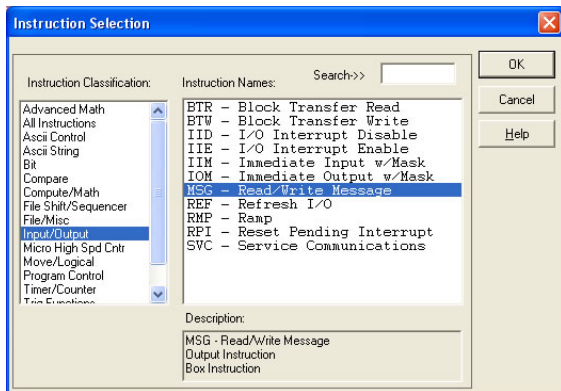

Figure 111: MSG Instruction Selection
- Select the “MSG” instruction from the “Input/Output” classification, then click OK. Refer to Figure 111.